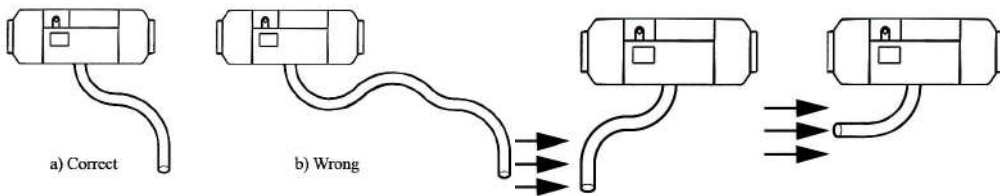

Fig. 24
4.6.3 Both the air inlet pipe and exhaust pipe shall come outwards and downwards from the heater (Fig. 24), otherwise a $\Phi 5\text{mm}$ hole shall be prepared at the bottom of the pipe for discharge of condensation water. Also, the sum of all curve angles for each pipe shall not exceed 270° .